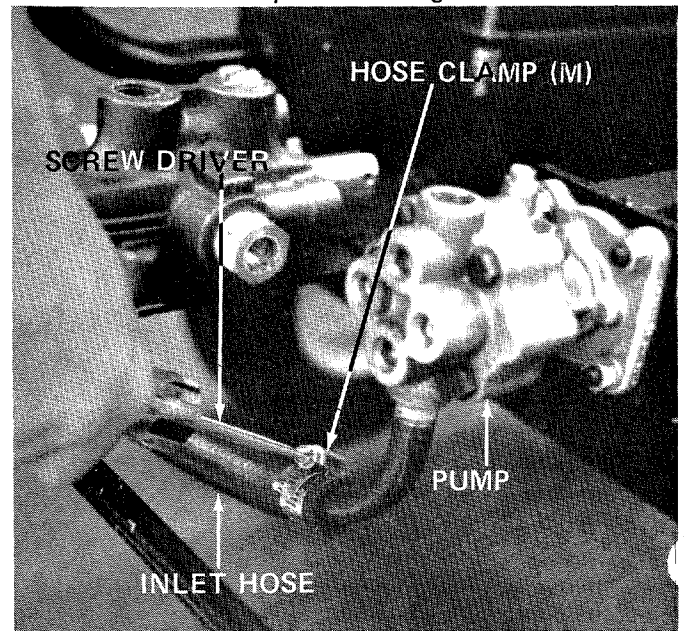

FIGURE 9
- Secure pivot bushing in place on engagement rod with hex nut (D).
- Secure the inlet hose to the pump with hose clamp (M), provided in hardware pack. A standard screw driver is required. See figure 9.